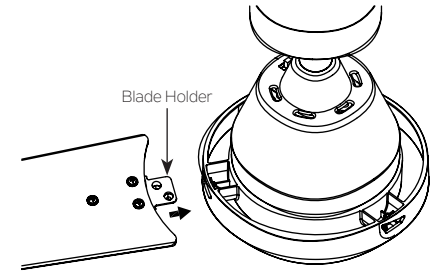

Fig. 20
Step 1. Carefully insert the blade holder into the slot as shown. (Fig. 20)